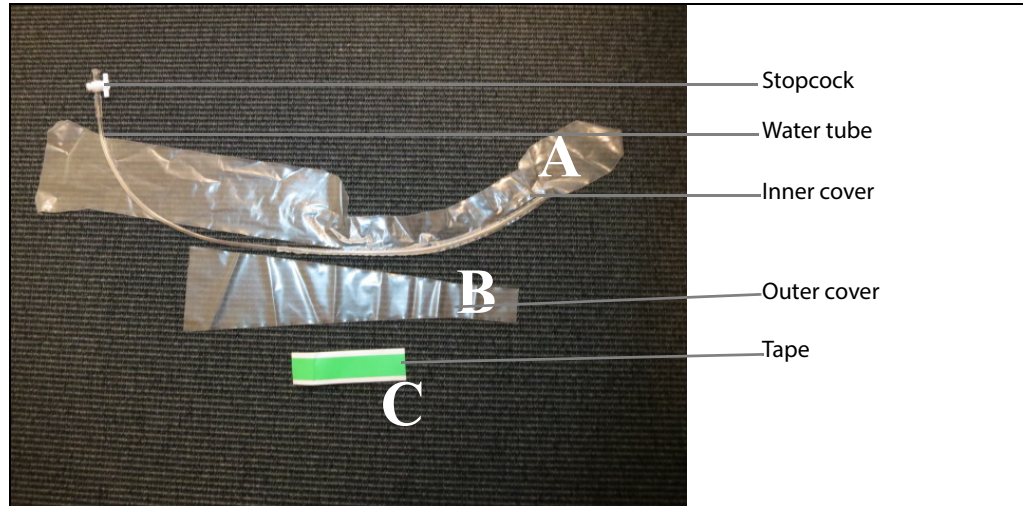

Figure 7. UA0048 water standoff system components.
Before you start, see Fig. 7 to familiarize yourself with the parts of the single-use water standoff system.
- 3 Pull the inner cover (A in Fig. 7) over the transducer. (See Fig. 10.) Check the inner cover for damage (tears).
- 6 Pull the outer cover (B in Fig. 7) over the transducer and inner cover. Make sure that it completely covers the tape, as shown in Fig. 14.